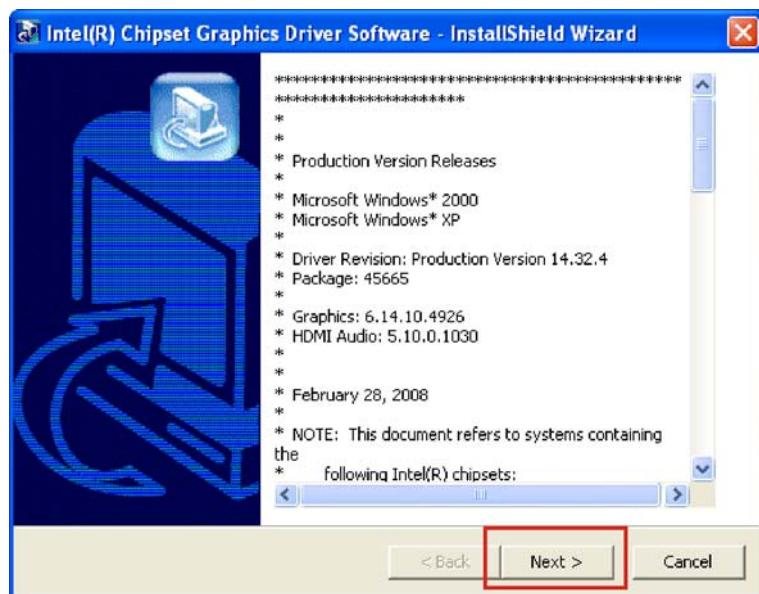

Figure 7-9: VGA Driver Read Me File
**Step 3:** The VGA Read Me file in **Figure 7-9** appears.